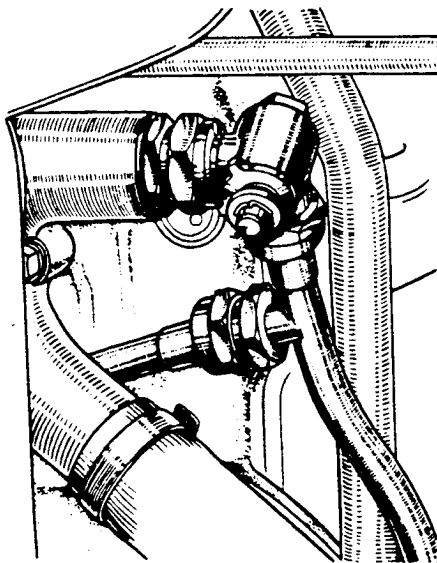

FIG. 1 THE EARLY HEATER
It has been found in service that the heater return pipe on the Bentley Continental Sports Saloon is subject to fracture at the junction of the return pipe from the underwing demister unit, due to strain. The junction is shown in Fig.1.
3. Disconnect the heater return pipe at the junction below the tap on the water pump (A Fig. 1).